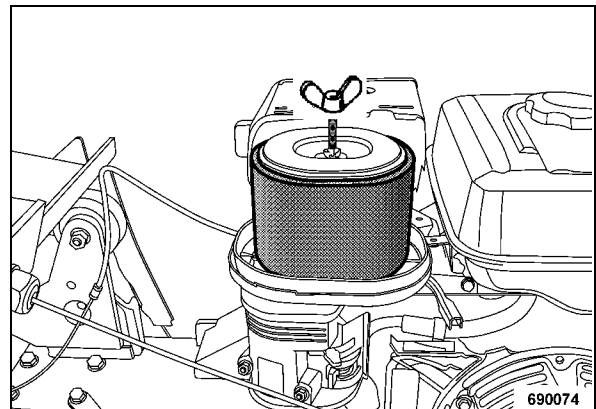

Fig. 44
- Unscrew the wing nut and remove the air filter (Fig. 44).